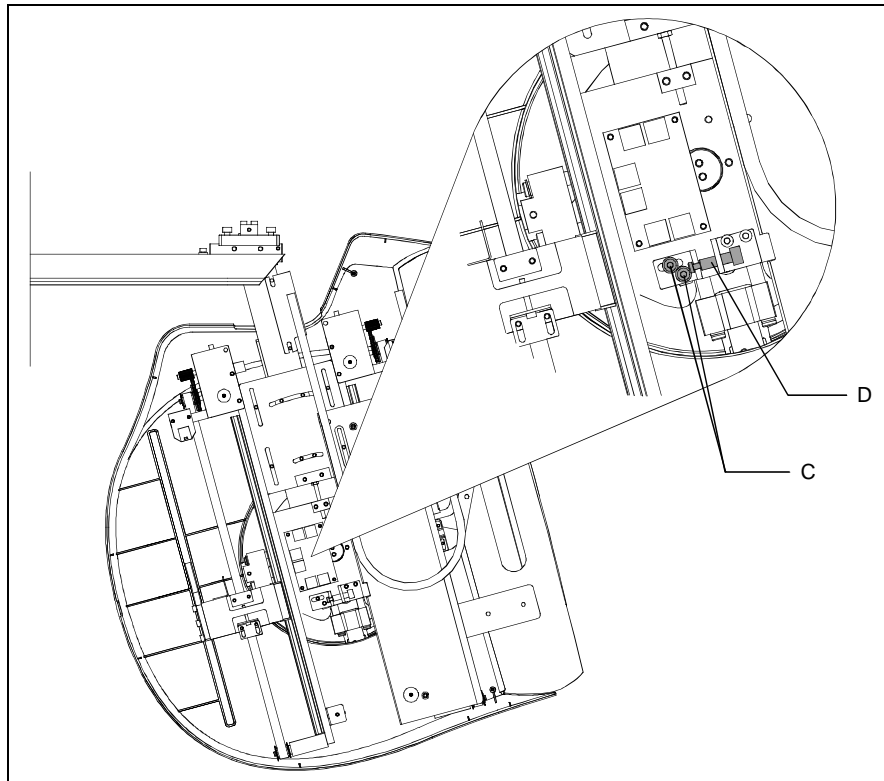

Figure 9-30
- 23.** To adjust the horizontally alignment between the two rings, loose the two screws "C" (Figure 9-30) and rotate the ear rings support group acting on screw "D". Once the aligned position has been reached (test exposures are required), tighten screws "C".